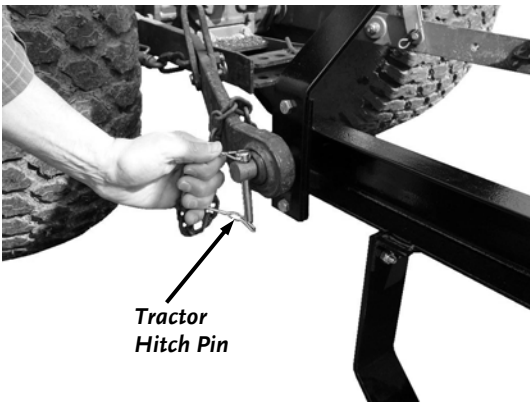

Figure 12
2. Slide the Lower Draft Arms onto the Chipper Hookup Pins and secure with Tractor Hitch Pins (**Figure 12**).